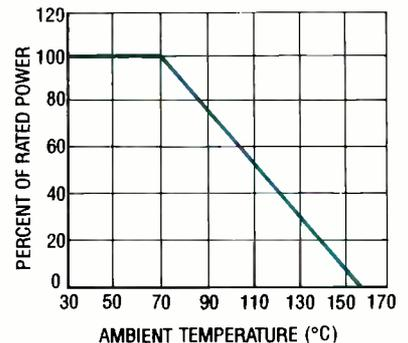

FIG. 2—A TYPICAL RESISTOR DERATING CURVE plots power against ambient temperature, the temperature of the environment in which the resistor is operating.
• **Power rating** is the maximum continuous power, in watts, that a resistor can dissipate at a temperature as high as 70°C. At temperatures beyond 70°C, the power rating is reduced or *derated*. A typical derating curve for a resistor is given in Fig. 2.